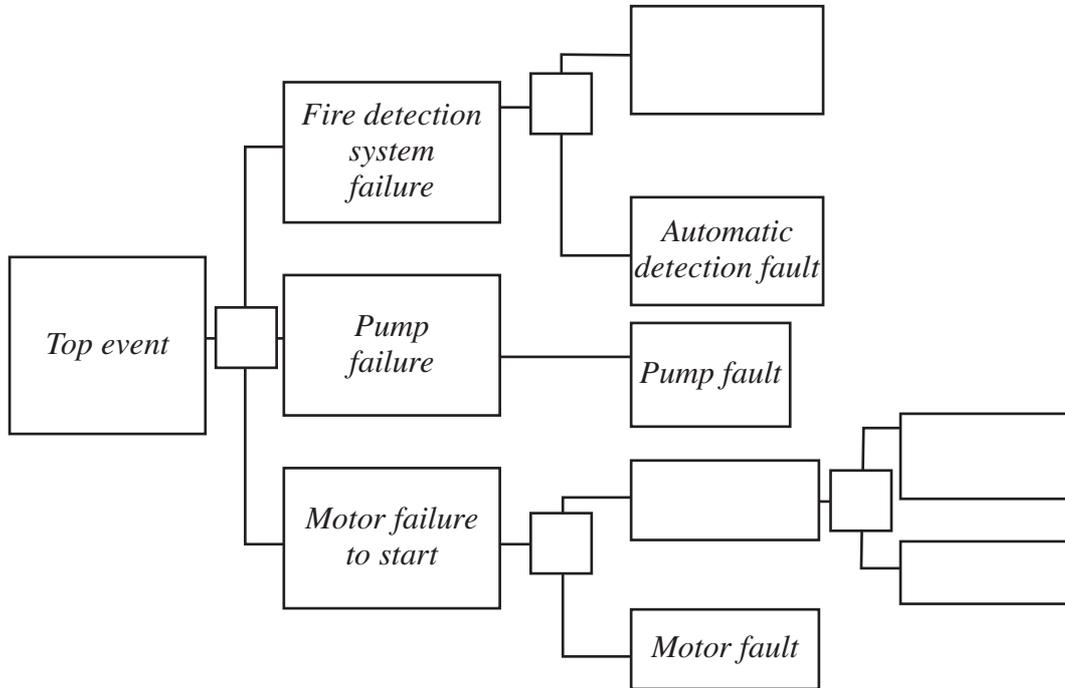

FIG. 4
- (a) State as a consequence of failure of the pump or motor or detection system, the top event. (It may assist you by referring to FIGURE 4.)
(c) Using the data from TABLE 1 complete the cause tree shown in FIGURE 4.